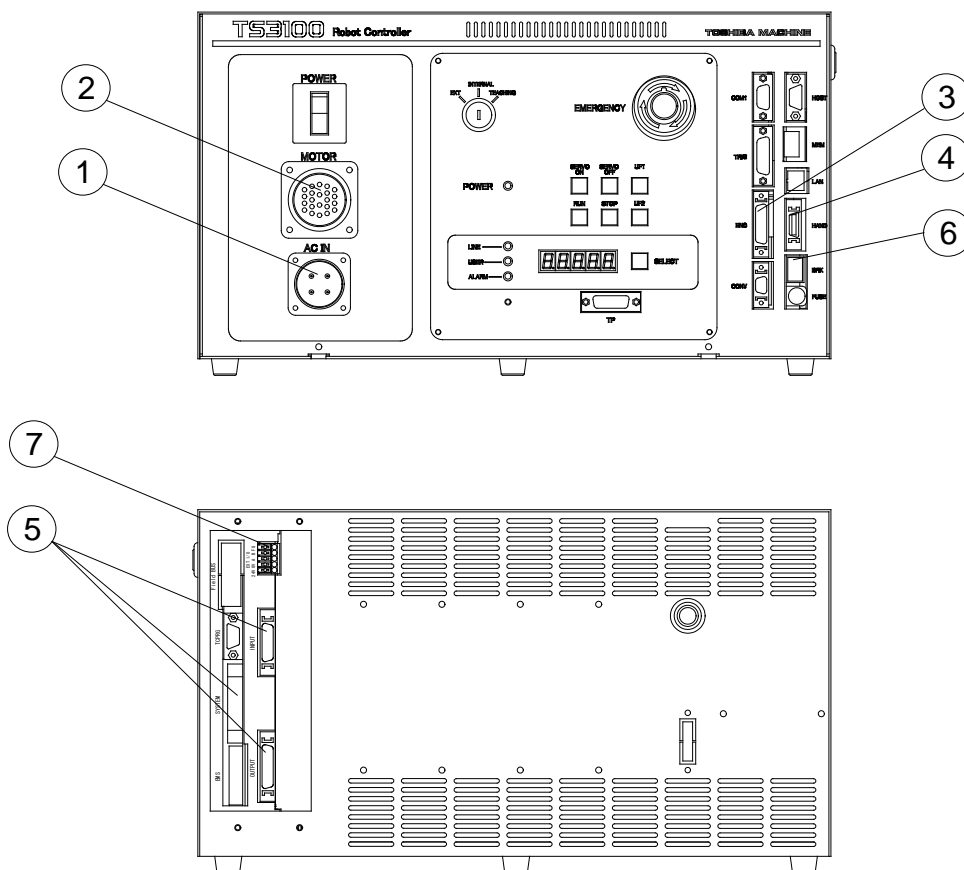
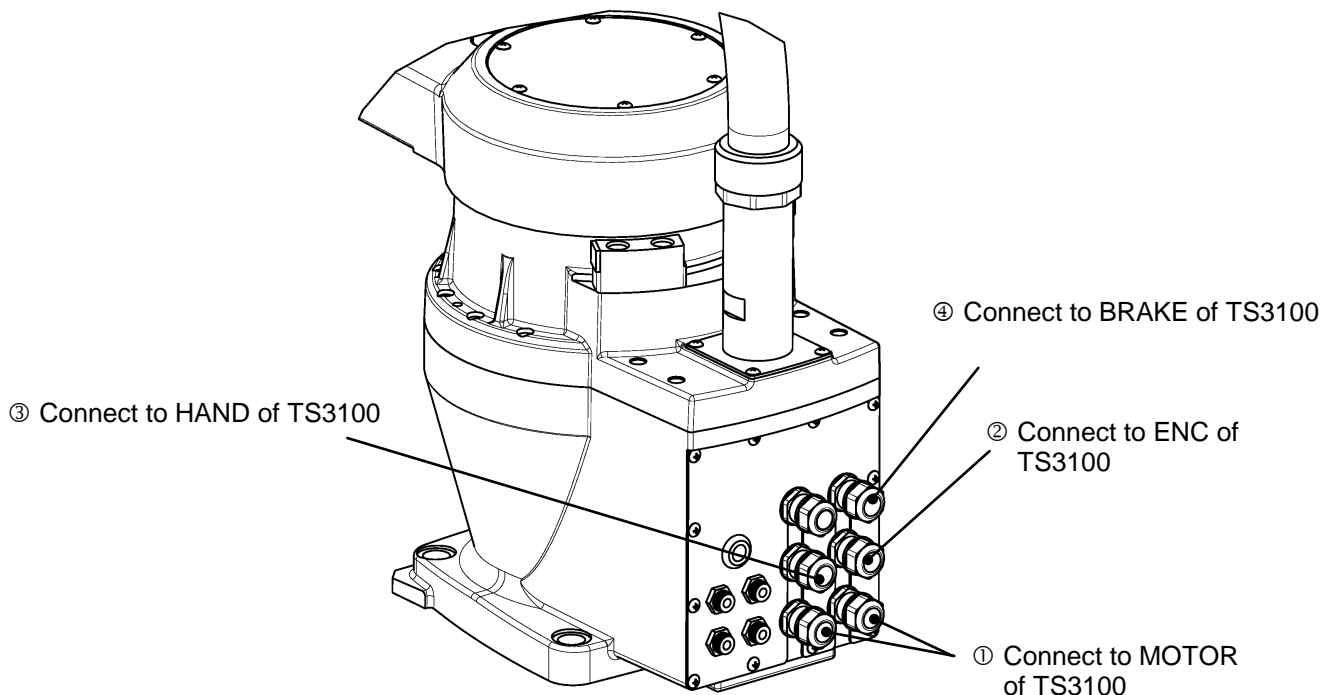

Fig. 4.1 Robot controller connector arrangement
Fig. 4.2 Robot side connector arrangement
The cables connected to the robot controller are shown in Fig. 4.1.
(① of Fig. 4.1) (Plug connector attached)
The connector is ACIN (① of Fig. 4.1).
(② of Fig. 4.1) (Cable attached)
The motor cable connects the controller and robot, and supplies the power required to rotate the motor from the controller servo driver to each axis feed motor of the robot. The connector for connecting the motor cable is MOTOR (② of Fig. 4.1). Location of the motor cable on the robot side is ① in Fig. 4.2.
4.1.4 Connecting the Encoder Cable “ENC” (③ of Fig. 4.1) (Cable attached)
The connector for connecting the encoder cable is ENC (③ of Fig. 4.1). Location of the encoder cable on the robot side is ② in Fig. 4.2.
4.1.5 Connecting the Robot Control Signal Cable “HAND” (④ of Fig. 4.1) (Cable: option)
The connector for connecting the robot control signal cable is HAND (④ of Fig. 4.1). Location of the robot control signal cable connector on the robot side is ③ in Fig. 4.2.